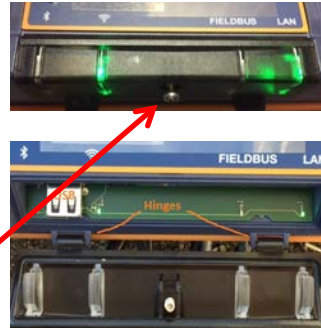

Figure 65 USB Access Door Closed [Top] and Open [Bottom]
- 1- To save a copy of your current program onto a USB drive, insert a USB into the USB port located behind the Communication light cover. See Figure 65 above.